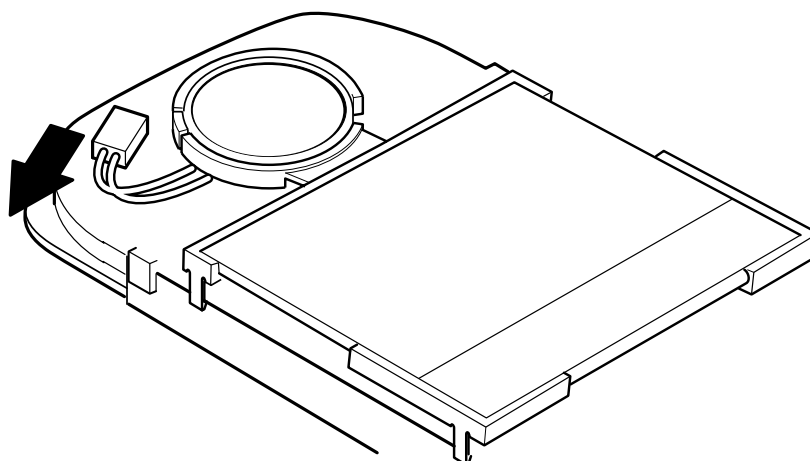

Figure 9: Speaker removal
9. Figure 9 Unplug the speaker connector from the logic C